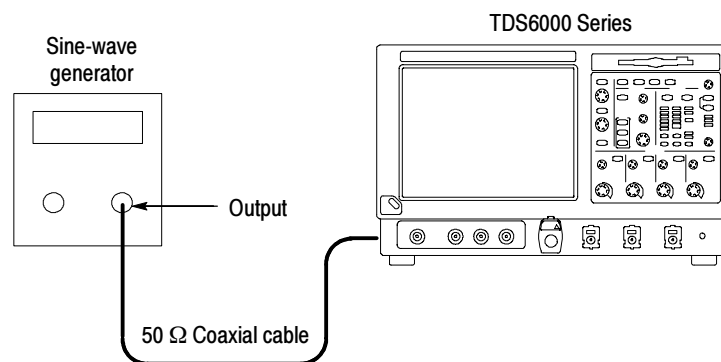

Figure 4-22: Final test hookup
- Move the cable from the **CH 1** input to the rear-panel **Ext Ref** input (see Figure 4-22).